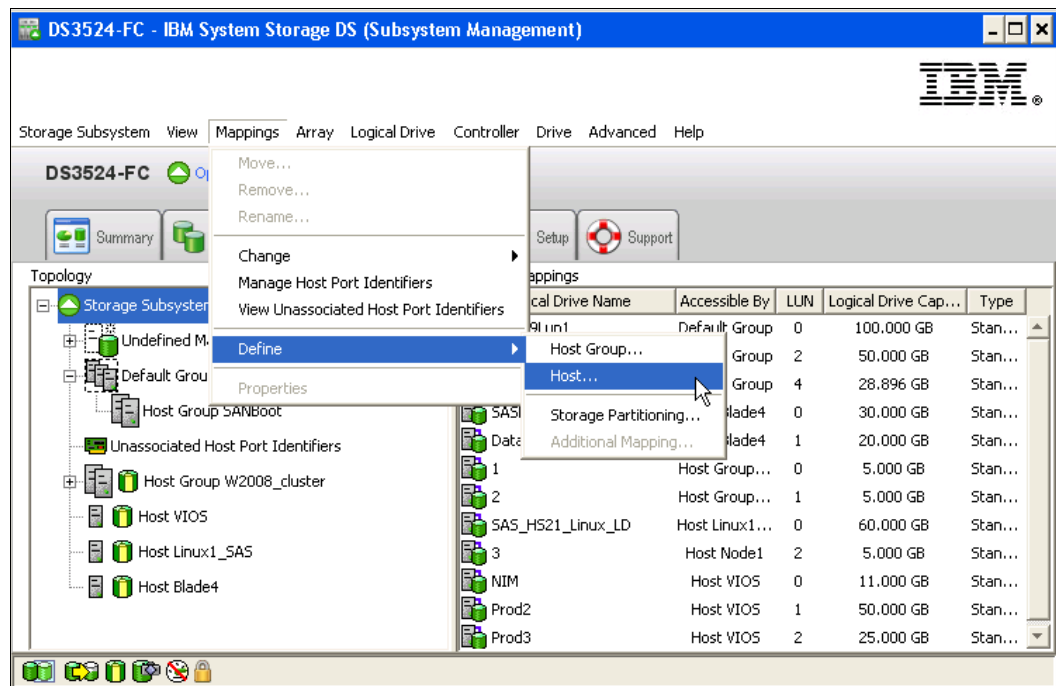

Figure 19-3 Define Hosts
- Click the Mapping tab, and then click **Mapping** → **Define** → **Host** as shown in Figure 19-3 on page 559. Specify the host name and the host interface type. Add the host port identifiers and select the appropriate host type. In our example, we defined Node1-Blade5 and Node2-Blade6 as our two cluster nodes.